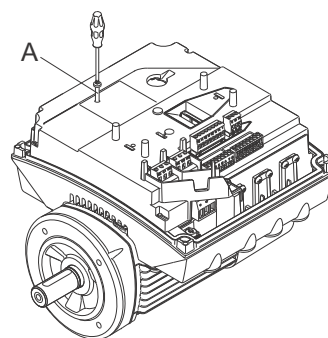

Fig. 47 Removing securing screw
4. Remove the securing screw (fig. 47, pos. A).
6. Fit and tighten securing screw (fig. 47, pos. A) to a torque of 1.3 Nm.